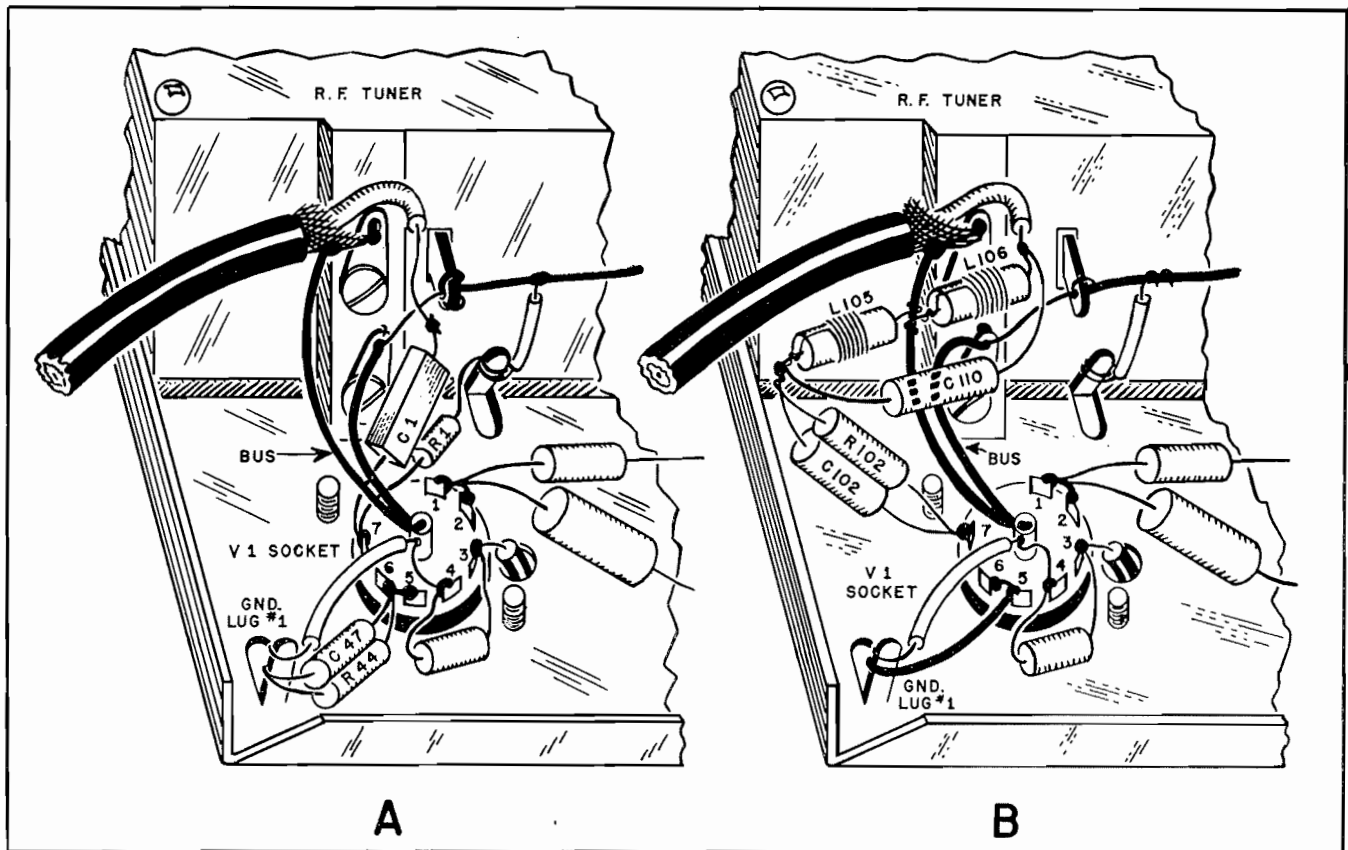

Figure M-1.
13. Ground the other end of the coil mentioned in step 12 to the bus wire, as shown in figure M-1.